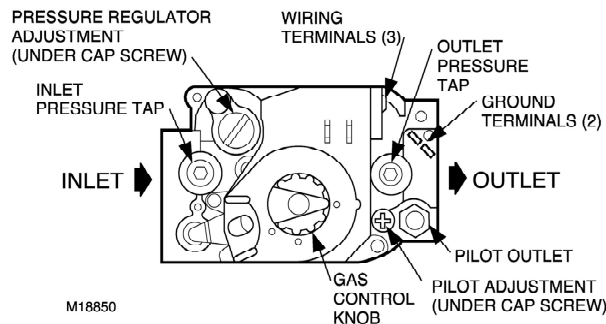

Figure 1
The pilot adjustment is part of the combination control valve located just behind the lower front access door. It is located on the centre left side of the control just below the large slotted screw head. (See Figure 1). Remove the large slotted screw; below this is a second slotted screw used for adjustment of the pilot burner flame.
1. Remove the pilot adjustment cover screw. Refer to Figure 1.
The gas pressure regulator is an integral part of the combination gas control located just behind the lower front access door. The pressure regulator adjustment is on the lower right side of the gas control (see Figure 1). The large slotted cap must be removed to access the adjustment screw.